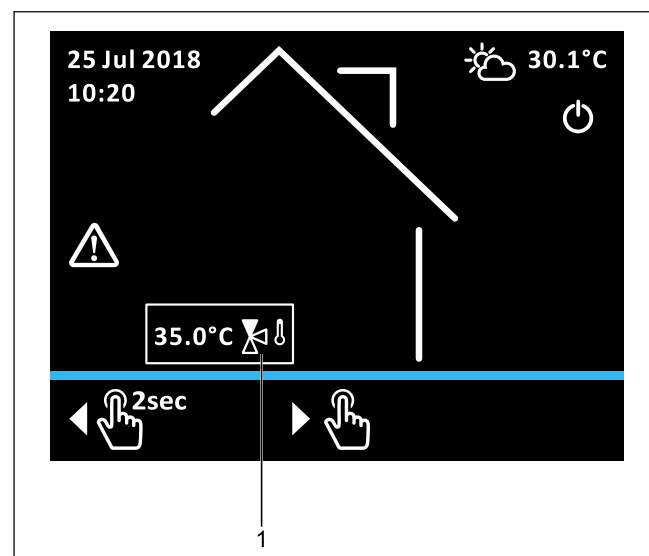

Fig. 9-3 Mixer module start screen
The start screen for the mixer module (Fig. 9-3) is a reduced version of the RoCon+ HP start screen. The meaning of the icons is the same Tab. 3-4, but the mixer temperature is the only system temperature displayed (Fig. 9-3, item 1).